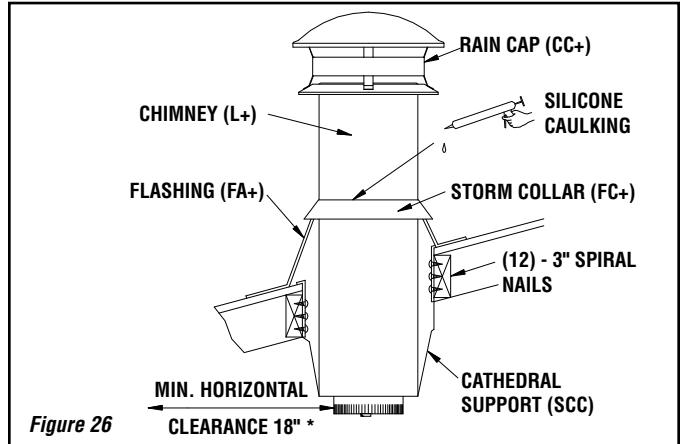

Figure 26
Using a level, make sure the support is vertical. If the support extends above the roof, cut it flush with the top of the roof. Nail the support to the framed opening using (12)-3" spiral nails (**figure 26**).